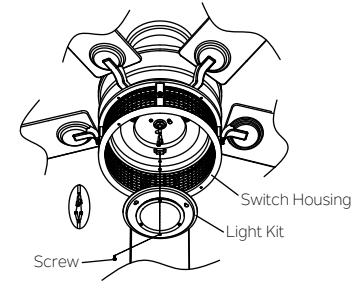

Fig. 20
**Step 1.** Remove 1 of the 3 screws from the switch housing and loosen the other 2 screws (do not remove). (Fig. 20)
**Step 2.** Hold the light kit close to the switch housing and connect the WHITE wires from the light kit and fan by pushing the connectors together. Follow the same procedure with the BLACK wires. (Fig. 20)
**Step 3.** Tuck the connections neatly into the light kit. Align the slot holes on the light kit and switch housing. Rotate the light kit until it locks in place at the narrow end of the key holes. Securely by tightening the 2 screws previously loosened and the one previously removed. (Fig. 20)